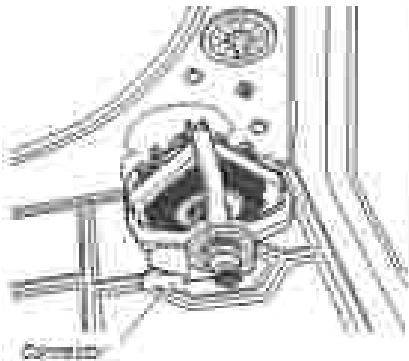

Figure 7 - Remove connector.
9. Check the wiring-acq continuity from the L2 terminal of the terminal block and the 2nd terminal in the white connector from the ACU. See figure 7 on page 11. Also, locate these measurement points by referring to the appropriate wiring diagram (See fig. C on page 43).
12. Remove the white connector from the end of the wire. See figure 7.